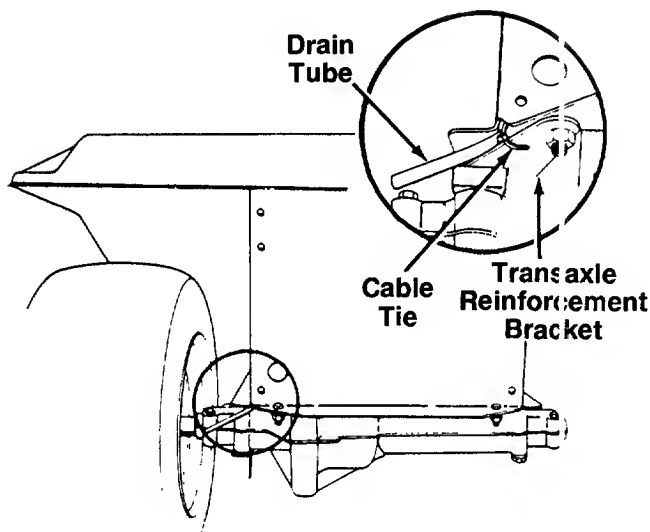

FIGURE 4.
6. Route the drain tube through the opening between the transaxle reinforcement bracket and the frame on the left rear of the unit. Secure the drain tube to the transaxle reinforcement bracket, using the cable tie as shown in figure 4. Be certain drain tube is routed away from the wheel rim. Trim excess end of cable tie.